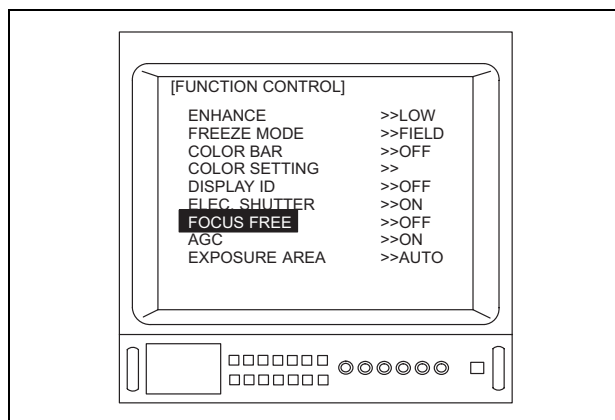

Figure 5.38
- Depress the menu switch "◀" or the "Enter" key on the keyboard to adjust "FOCUS FREE" (see Figure 5.38).
- If the focus free function is turned OFF, "OFF" appears next to "FOCUS FREE" in the menu shown in Figure 5.38.